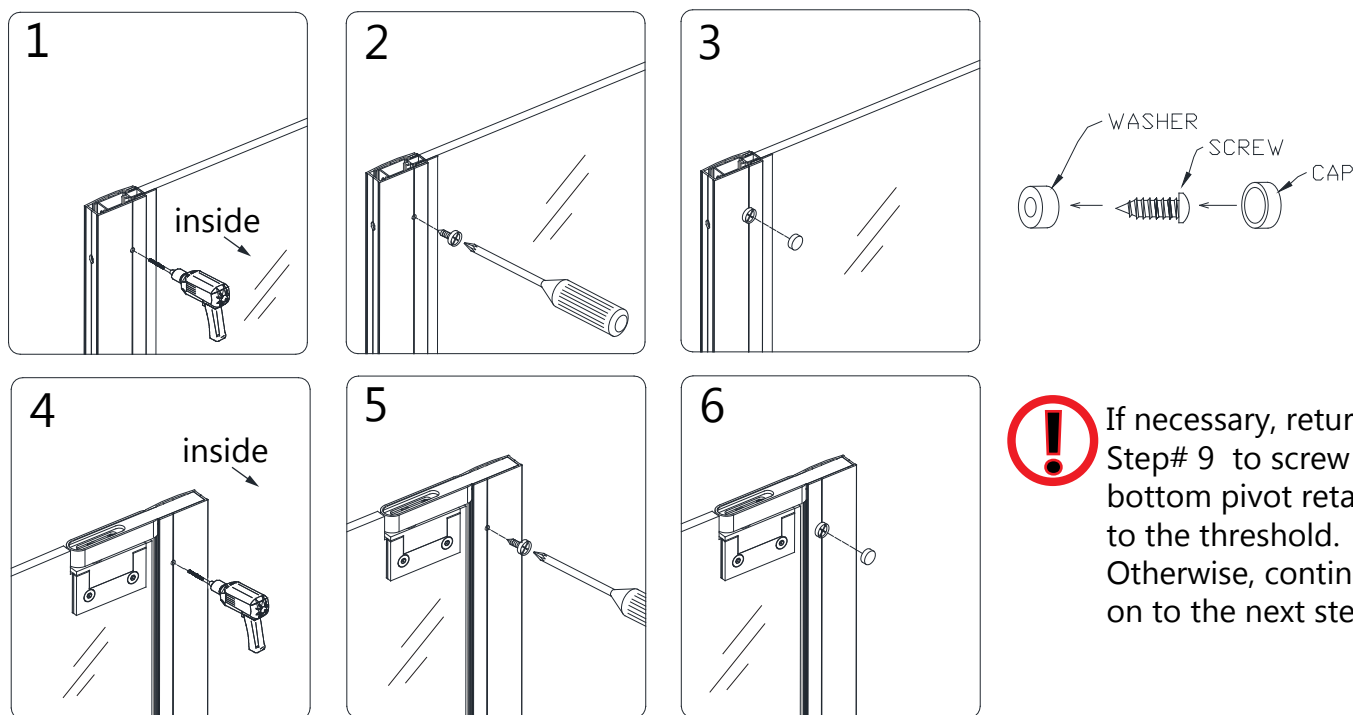

Fig 15
15. After final adjustments and leveling of the assembled door and profiles, drill holes into the **Glass Profiles (#02 and #04)** through the pre-drilled holes in both **Wall Profiles (#01 and #05)** using an **Ø1/8"** drill bit. (Fig 15)